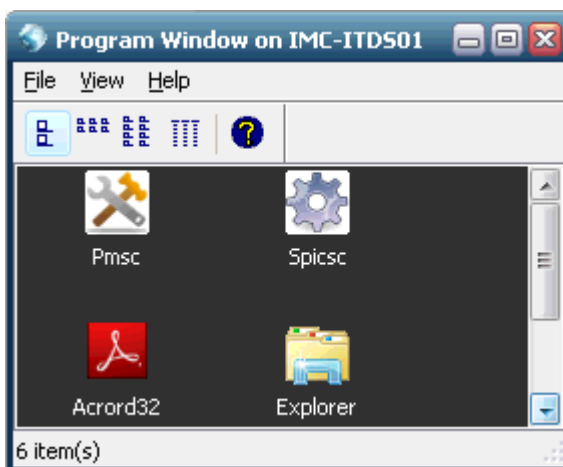

Fig.3-1-5 Program Window on IMC-ITDS01
- (1) Double-click "Spicsc" icon on "Program Window on IMC-ITDS01" (Fig.3-1-5).
- (2) "CMAXS PMS[Login]" screen is displayed.